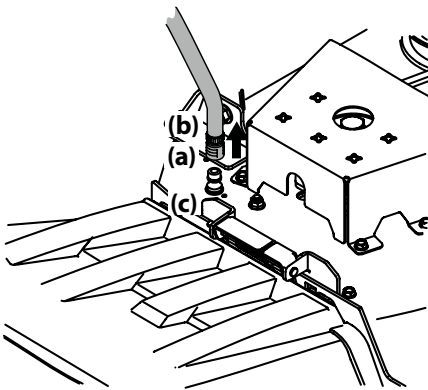

Figure 4-1
3. Pull back the lock collar (a) of the nozzle adapter (b) and push the nozzle adapter (b) onto one of the deck wash nozzles (c) at either end of the tractor deck. Release the lock collar (a) to lock the nozzle adapter (b) on the deck wash nozzle (c). See Figure 4-1.